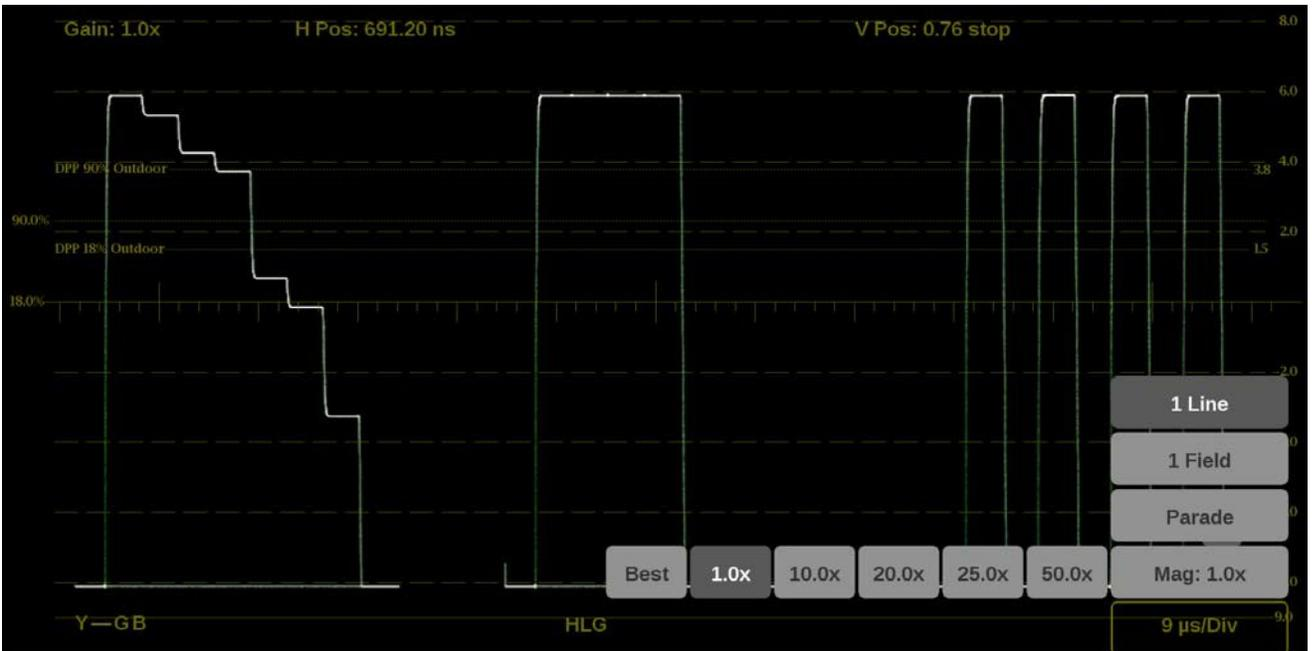

Figure 197: Stop Display on-screen tools – display format
1. Select the button in the bottom right corner of the application to expand the available display format options. (See Figure 197.)